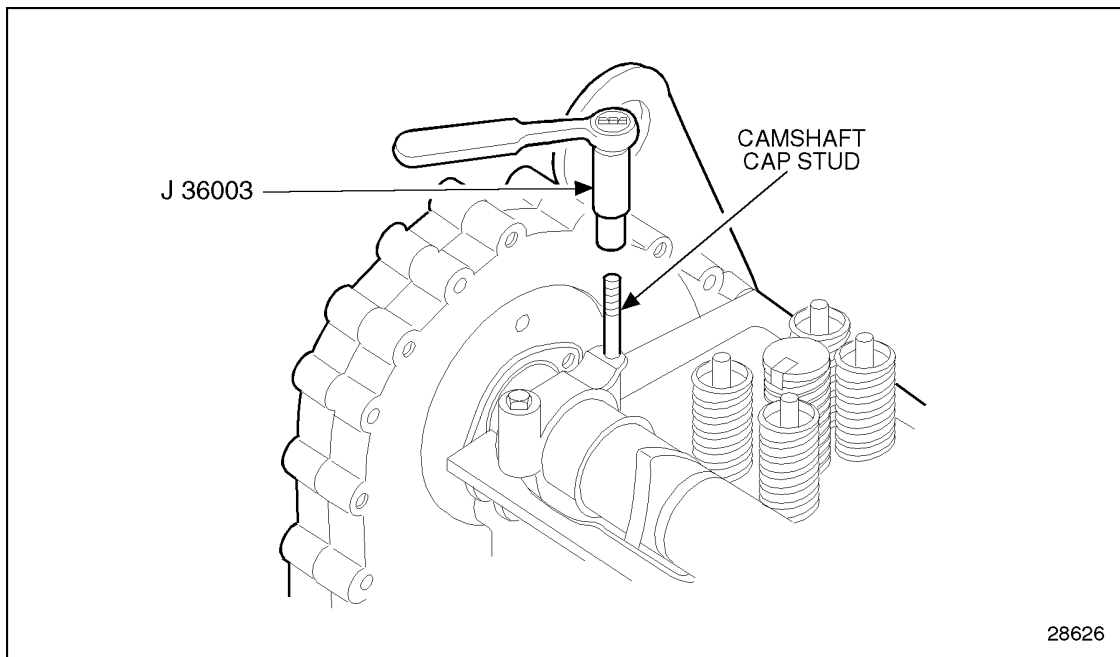

Figure 1-320 Removal of Camshaft Cap Stud
20. Remove the number 1 camshaft bearing cap using socket tool J 36003. See Figure 1-320.